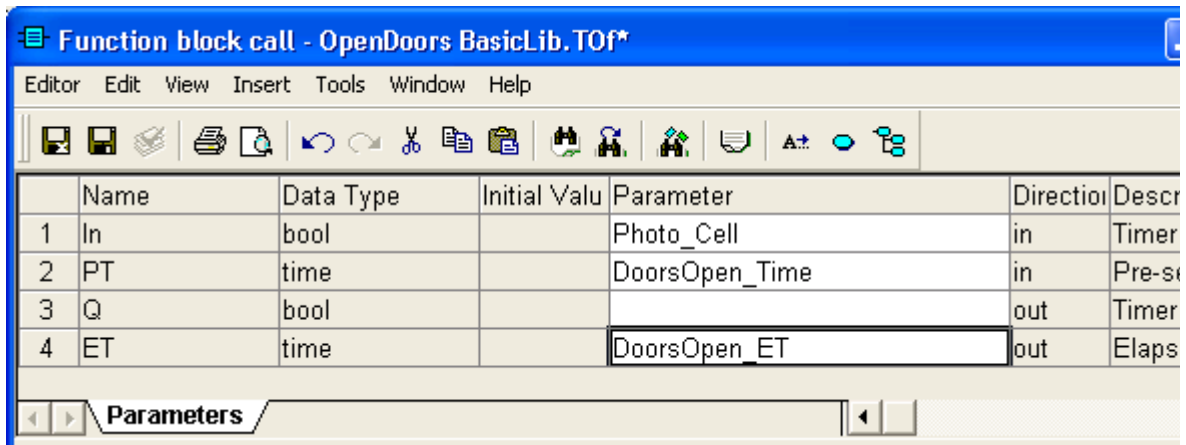

Figure 31. Connecting function block parameters.
8. Fill in the other two variables in the parameter list according to Figure 31.